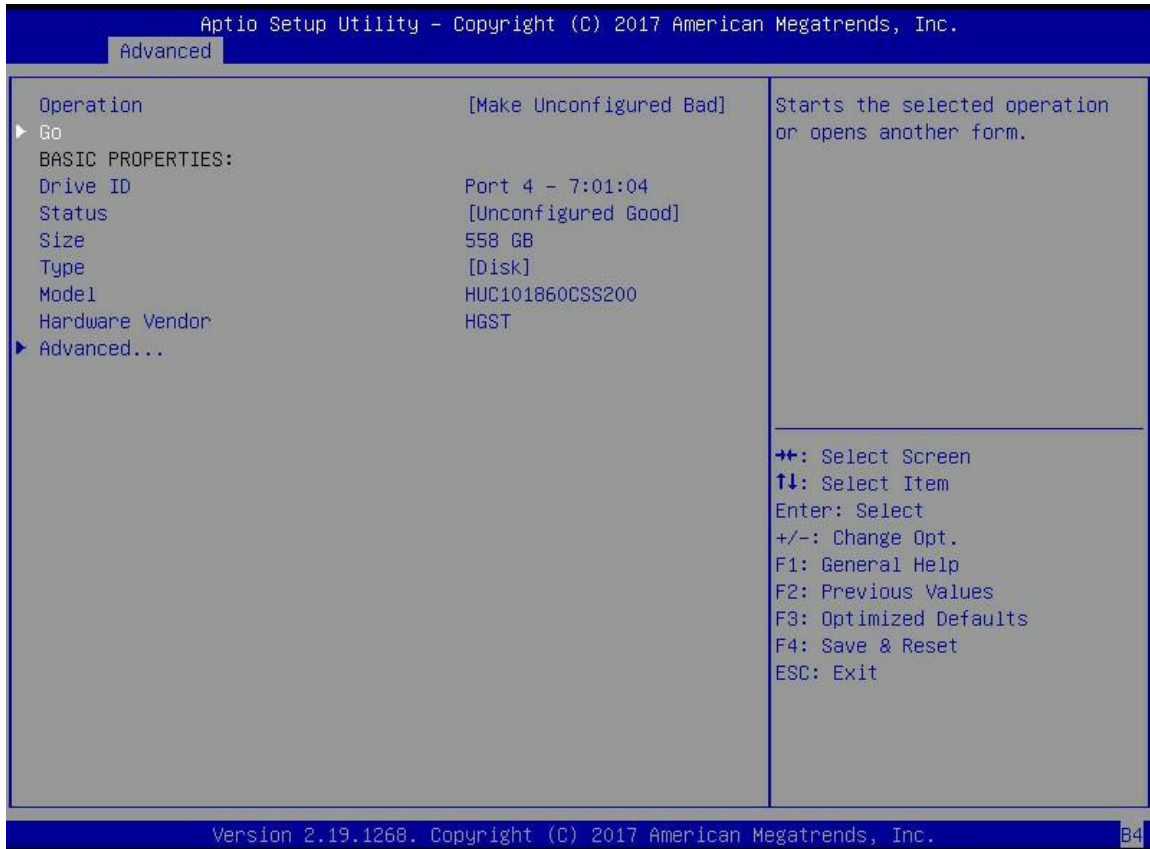

Figure 6-5
- d) Enter the interface shown in Figure 6-5, select go and press enter.